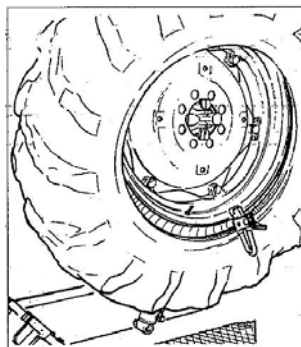

Fig.7.14
- 19) Lift the wheel again and attach the PC clip outside the second bead about 20 cm to the right of the valve. (See Fig.7.14)